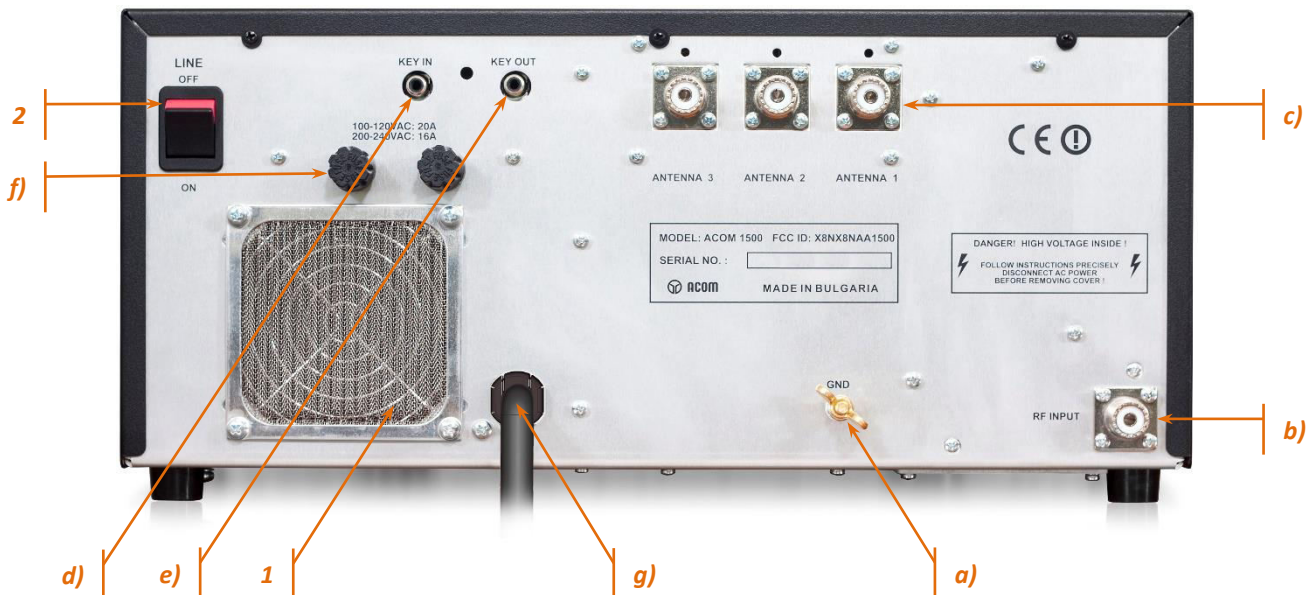

Figure 2-1 Rear panel - Connections
The ACOM 1500 HF + 6 meters Linear Amplifier is a Safety Class I unit regarding protection against electric shock. The third grounding lead of its mains cord (colored yellow with two green stripes) and the ground stud on the rear panel of the amplifier (marked **GND**, see Figure 2-1 Rear panel - Connections, Pos. (a)) must be connected to the station's grounding system for safe operation.
Please, see **Figure 2-1 Rear panel - Connections**.
First, connect the wing-nut ground stud of the amplifier (on the rear panel, marked **GND**) to the station's grounding system (see *Figure 2-1 Rear panel - Connections*, Pos. (a)).
Connect a suitable coaxial cable from the transceiver output to the amplifier **RF INPUT** SO-239 socket (see *Figure 2-1 Rear panel - Connections*, Pos. (b)), using PL-259 plug.
Connect a suitable coaxial cable with a PL-259 plug (with PTFE insulation) from the appropriate amplifier output (marked **ANTENNA 1, ANTENNA 2, and ANTENNA 3**, see *Figure 2-1 Rear panel - Connections*, Pos. (c)) to the antenna selector or tuner, or to the antenna for the respective frequency band.
Run a shielded cable from the "ground on transmit" socket or terminal on your transceiver to the amplifier **KEY-IN** socket (see Figure 2-1 Rear panel - Connections, Pos. (d)). The **KEY-IN** socket uses a standard RCA phono plug.
The **KEY-OUT** socket (see Figure 2-1 Rear panel - Connections, Pos. (e)) provides an extra control signal from the amplifier to the transceiver. It could be used to improve the transmit/receive (RX/TX) switching safety.
Make sure you check whether the main fuses installed in your amplifier (see *Figure 2-1 Rear panel - Connections*, Pos. (f)) correspond to your local mains nominal voltage and if necessary, replace them as described in Section *6.3 Fuse Replacement*!
Due to the different standards in different countries, the mains plug is supplied and mounted by the dealer. He connects to the mains cord end (see *Figure 2-1 Rear panel - Connections*, Pos. (g)) a standard mains supply plug which meets the Safety Class I unit standard in your country.
Make sure the main Power Switch (marked "LINE", see Figure 2-1 Rear panel - Connections, Pos. (2)), on the rear panel is in OFF position and insert amplifier's mains plug into the wall outlet prepared for it. The amplifier remains switched off.
After following all instructions in Section **2 INSTALLATION**, you may turn on the main power switch (marked "LINE") on the rear panel (see **Figure 2-1 Rear panel - Connections**, Pos. (2)). The LED indicator above the **POWER** button (located on the front panel) must light red and "ACOM 1500" will appear on the display (see **Figure 3-1 Front panel - Display and Controls**).
In order to turn on the amplifier, while the Main Power Switch (located on the rear panel and marked "LINE", see Figure 2-1 Rear panel - Connections, Pos. (2)) is in On position, press the **POWER** button (located on the front panel right-bottom corner, see Figure 3-1 Front panel - Display and Controls) and hold it on for about one second. The LED indicator above the **POWER** button will change the color from red to green. You will hear the blower and the optional external fan (if installed) start first at high speed, then slow down.